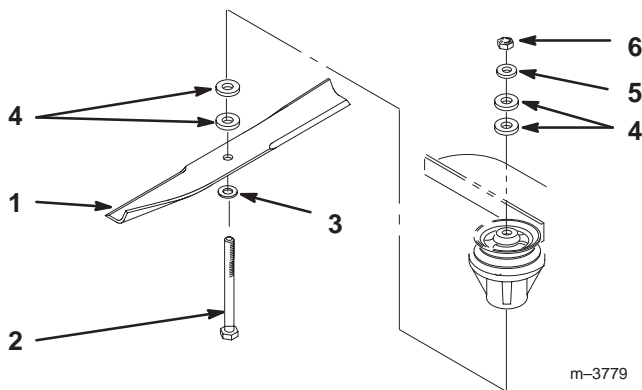

Figure 19
2. Hold blade bolt and remove nut. Slide bolt down, through spindle, and change spacers as required (Fig. 19).
3. Insert bolt, add extra spacer(s), and secure with thin washer and nut (Fig. 19).